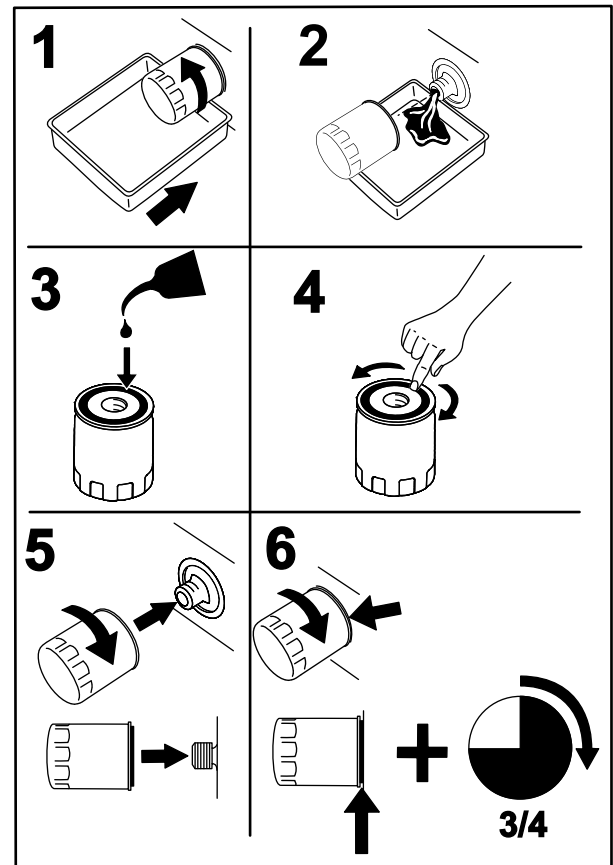

Figure 43
- Change the engine oil filter (Figure 43).